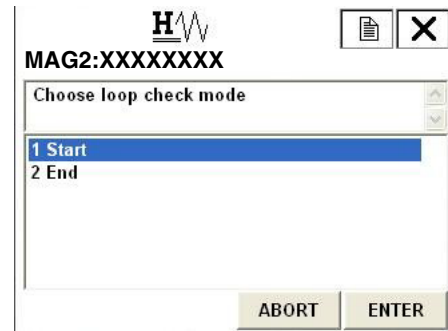

Figure 132.
2. Once the display as shown Figure 131 appears, make sure that the loop is removed from the automatic control. Then press "OK" to execute the output check with a calibrator. Then Figure 132 is displayed.